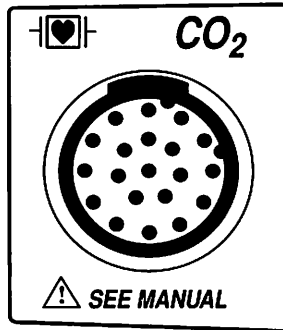

Figure 2-42. CO₂ connector
- 8 Plug in the CO₂ sensor cable to the CO₂ connector on the Propaq's left side panel (Figure 2-42).